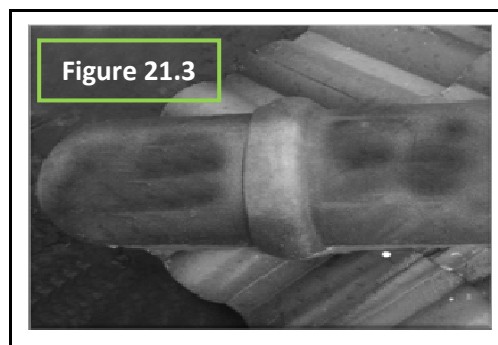

Figure 21.3
- ✚ If the hip starter is on a high pitched roof, it is highly recommended to fasten or fix it using specialized clips or nail / screw (*Fig.21.3*).